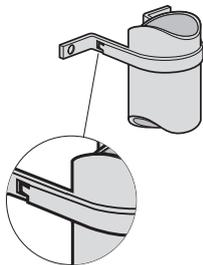

Fig. 7b 140 Bracket on pipe
Step 2 – Locate strap tongue in back square hole and place bolt in round hole (Fig. 7b)